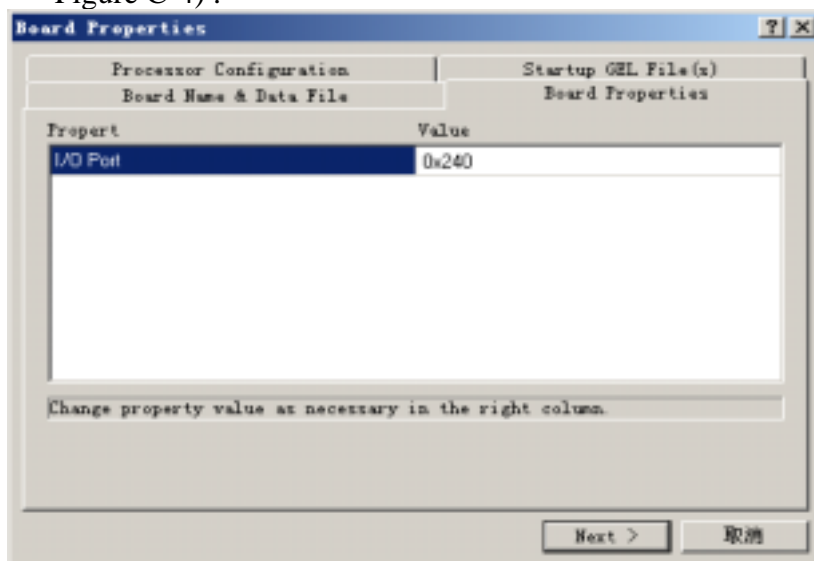

Figure C-4
4. Click on “Next”, you will see the I/O Port Value: 0x240 (see Figure C-4) .